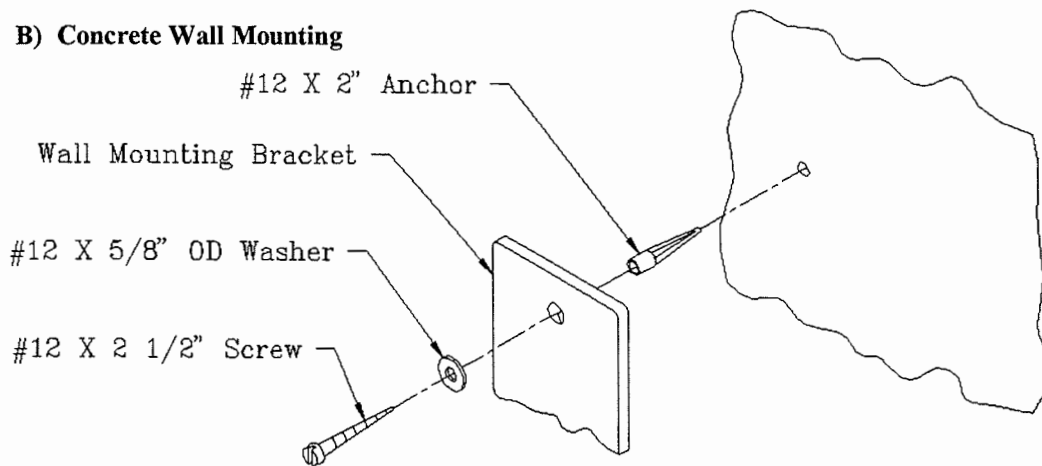

Figure 5
1. Drill a hole in the concrete wall as instructed by the anchor manufacturer. Drive in the anchor. Insert the screw through the washer then through the wall bracket. Thread the screw into the anchor until it is tight. One screw is required for each mounting hole (see fig 5).